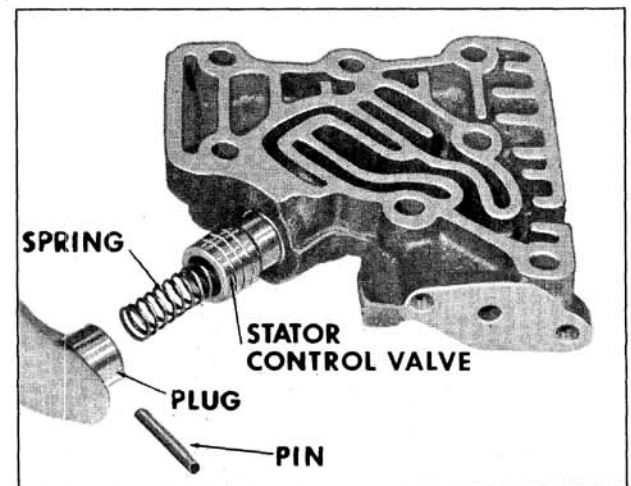

Fig. 6-401 Removing and Installing Stator Control Valve
free. Remove plug, spring and valve from body. (Fig. 6-401)
1. Install stator control valve, spring and plug into bore of valve body. Compress plug and install retaining pin. (Fig. 6-401)